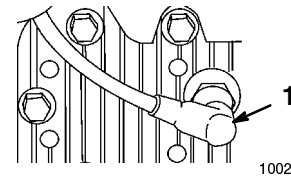

Figure 8
1. Disconnect the wire from the spark plug (Fig. 8).
1. Connect the wire to the spark plug (Fig. 8).